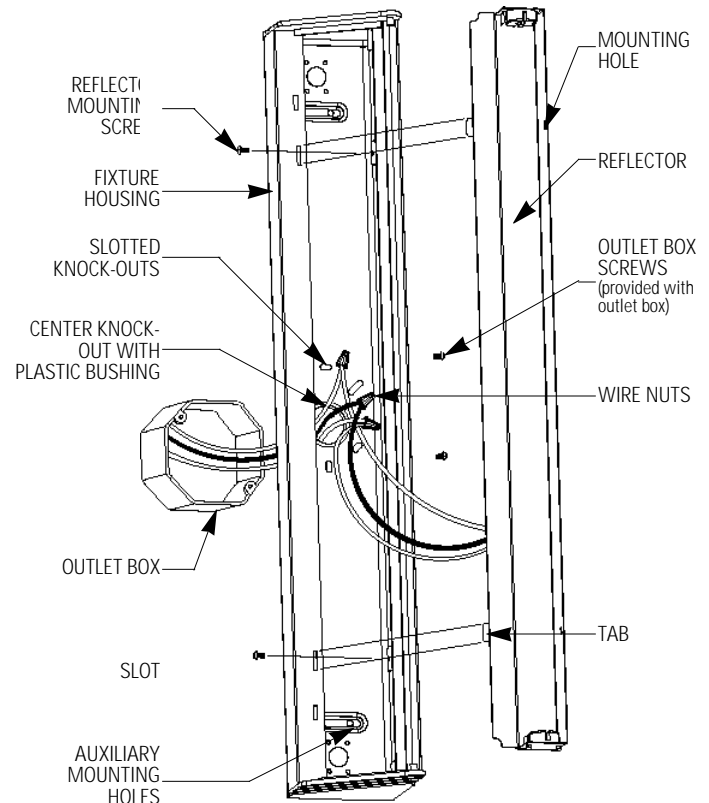

Fig. 1
1. Remove two REFLECTOR MOUNTING SCREWS and gently lift REFLECTOR from FIXTURE HOUSING to expose wiring. (Fig. 1)
2. Remove round center KNOCK-OUT HOLE in FIXTURE HOUSING and snap PLASTIC BUSHING into opening. (Fig. 1 & Fig. 2)
**Note:** In addition to outlet box mounting, it is also recommended to use AUXILIARY MOUNTING HOLES at each end of FIXTURE HOUSING. (Fig. 1) Use appropriate mounting hardware for the wall surface (i.e.: wood screws, toggle bolts, molly screws, etc.).
2. Remove round center KNOCK-OUT HOLE in FIXTURE HOUSING that will be mounted to outlet box/supply wires and snap PLASTIC BUSHING into opening. (Fig. 1)